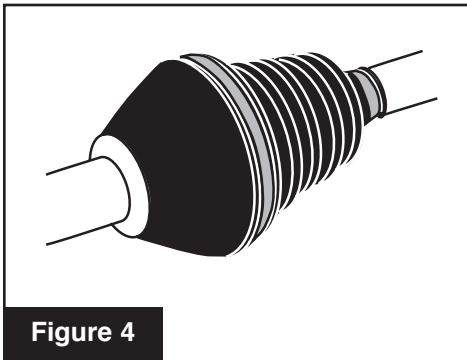

Figure 4
6. If the new CV boot is positioned as shown in **Figure 4** no cutting is necessary for proper fit.